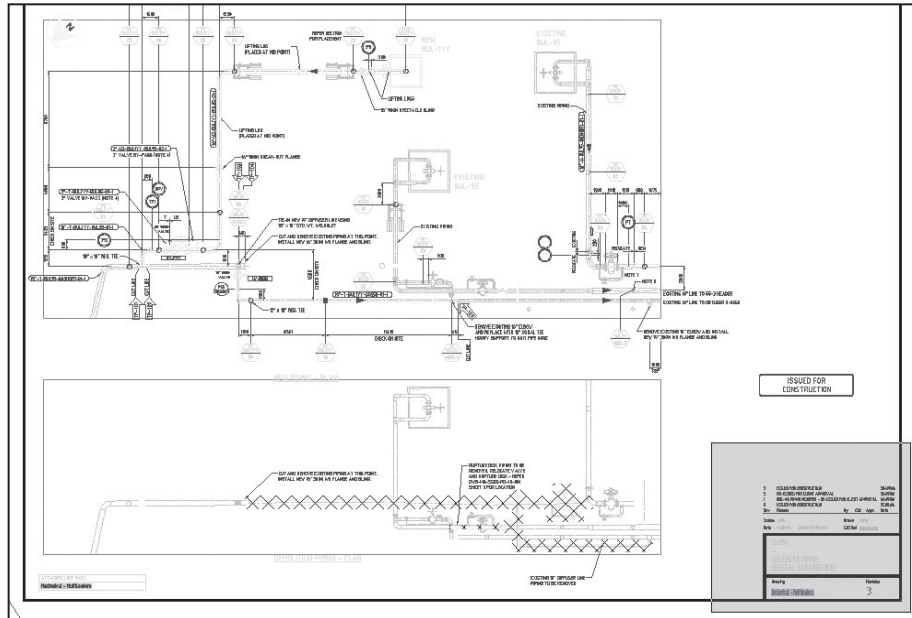

Fig. 1-5
Imagine a small window surrounding the title block of the drawing, as shown in Fig. 1-5. This will become the zoom window.
2. Using the pointing device, pick a point (by pressing the left button) to specify one of the four corners of the imaginary window. See Fig. 1-5 for the location of the window.